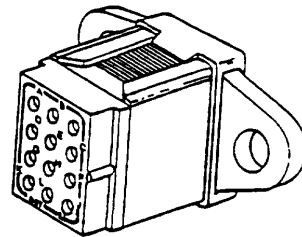

Figure 11. Grounding Block
25. GROUNDING BLOCKS (GROUNDING MODULES). The grounding blocks (Figure 11) are feedback receptacles having multiple internal contacts interconnected to form one circuit that in turn is connected to a grounding plate. These components can also be used for power distribution connections at a buss.